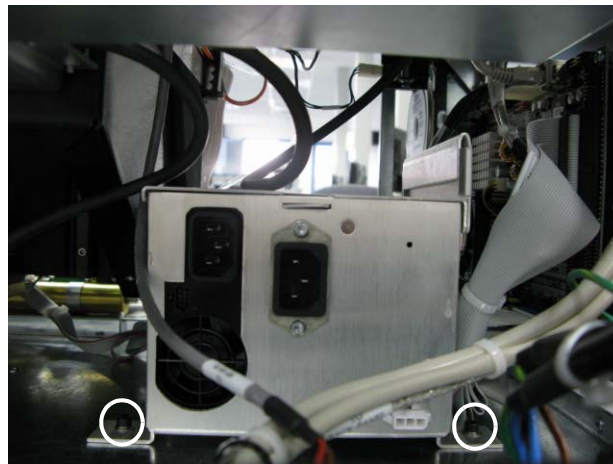
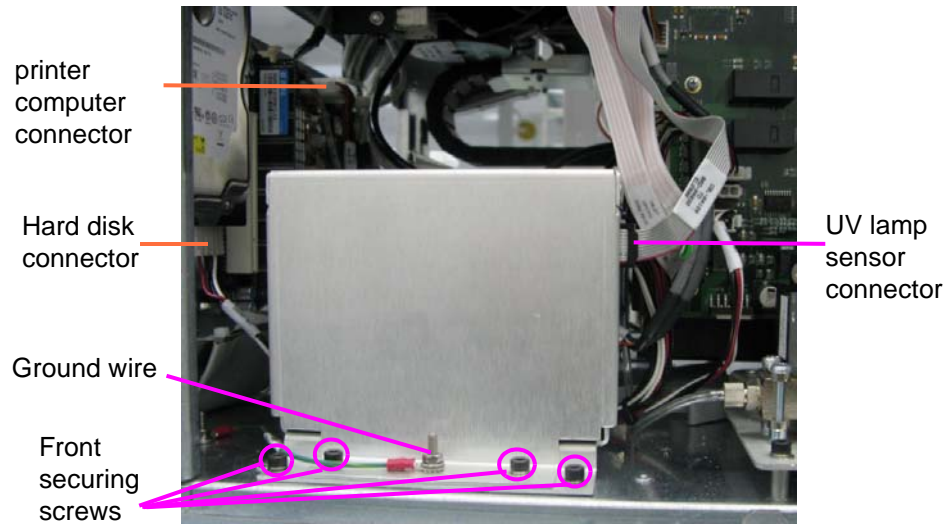

Figure 130 Power Supply Rear Screws
Figure 131 Power Supply Unit (Front View)
9. Disconnect the following at the front of the power supply unit (see Figure 131):
11. Disconnect the power cable from the hard disk (CBL-04305) shown in Figure 131.
12. Disconnect the DC power cable from the printer computer board (CBL-04305) shown in Figure 131.
23. Secure the power supply unit to the printer with four screws (see Figure 130 and Figure 131).
25. Replace the cover and secure with two screws to the printer (see Figure 131).
27. Connect the UV lamp sensor connector at the end of CBL-04120 (see Figure 131).
12. Disconnect the power cable from the printer computer board (CBL-04305) shown in Figure 131.